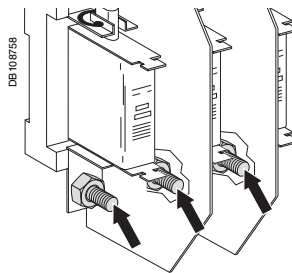

Fig. 9: power connection of enclosures C1 and C2.
- connect the phases marked L1, L2, L3 on the pads marked L1, L2, L3 (fig. 9).